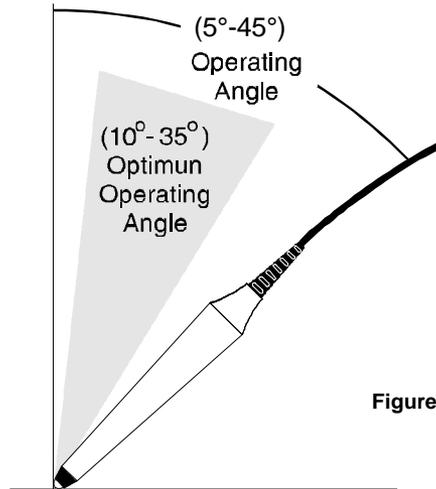

Figure 2
- 2) Hold the BCR in your hand as you would a pencil. The BCR works best when tilted from  $10^\circ$  to  $30^\circ$ , although any angle from  $5^\circ$  to  $45^\circ$  will work. See Figure 2.